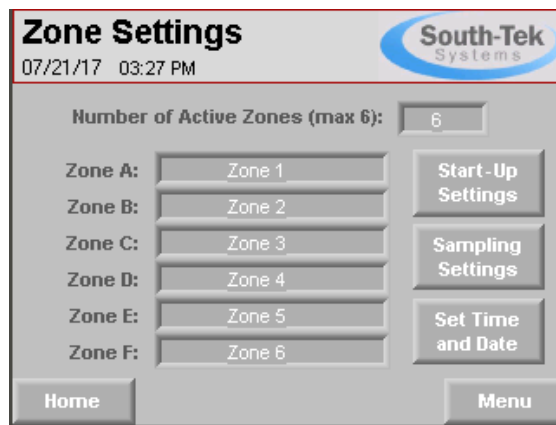

Figure 17: Zone Setup Screen
6. Set date and time to the current date and time in the area by navigating to the "Date and Time Screen" seen in **Figure 18**. To open this screen press the "Zone Setup" button in the menu, then press the "Set Time and Date" button seen in **Figure 17**.